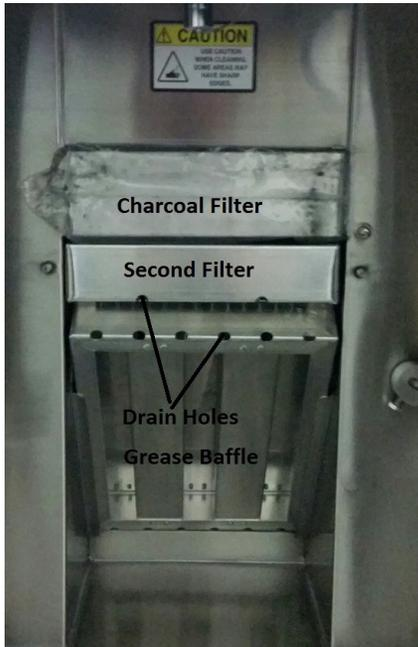

fig. 4
- Remove the charcoal filter from the plastic bag.** Insert it into the tracks above the second filter (fig. 4).
These drain holes must be facing down in order for the filters to efficiently drain and clean the air (fig. 4).